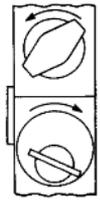

Figure 3-6
A. Insert cylinder key into cylinder on combination lock side of the door. Turn the key in a clockwise direction to the stop position, retracting the latch fully (**See Figure 3-6**). Hold the key in that position and turn the thumb turn to the left (counterclockwise). Bring the key to the pull position and remove.